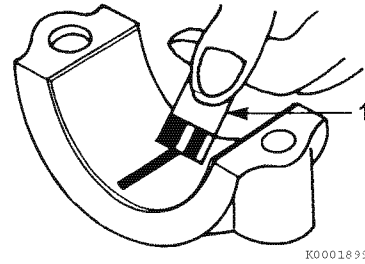

Figure 6-60
9. Compare the width of the flattened PLASTIGAGE (**Figure 6-60, (1)**) to the graduation marks on the package. The mark that most closely matches the width of the flattened PLASTIGAGE will indicate the bearing oil clearance. Record the measurement. See *Crankshaft* on page 6-8 for clearance specifications.